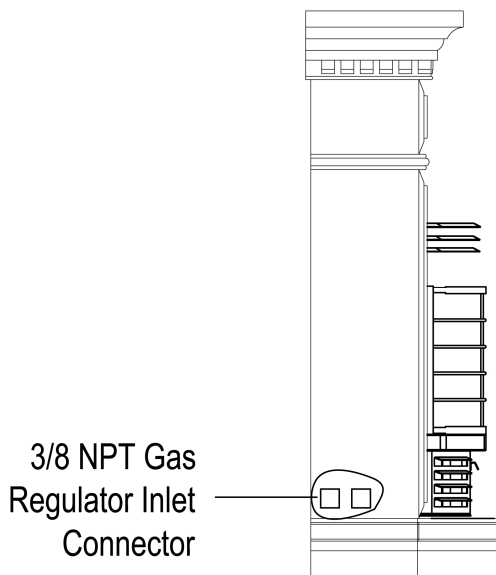

Figure 5 - Gas Regulator Location and Gas Line Access into Stove Cabinet
**⚠ WARNING:** This appliance requires a 3/8 in. NPT inlet is connection to pressure regulator (see Figure 5).